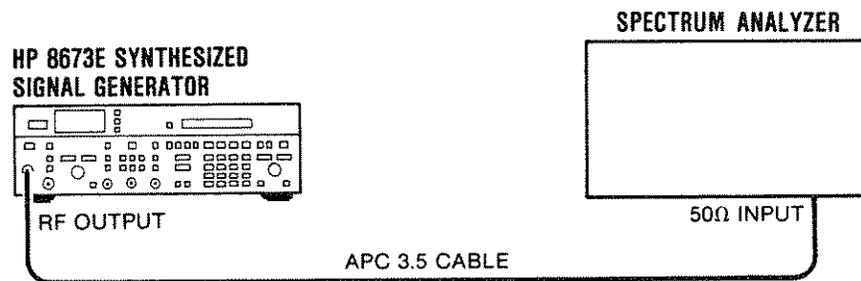

Figure 4-14. On-Off Ratio Test Setup
20. Connect the equipment as shown in Figure 4-14.